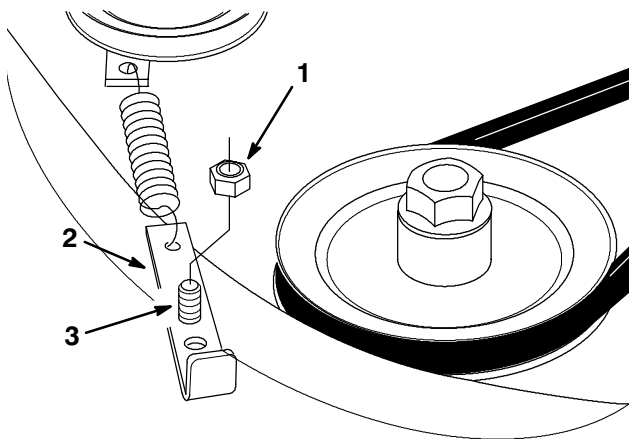

Figure 30
2. Lift the spring anchor up and off of the cap screw (Fig. 30).
3. Reinstall the appropriate hole in the spring anchor onto the cap screw to increase the idler pulley spring pressure on the deck idler pulley (Fig. 30).
4. Reinstall and tighten the nut onto the cap screw (Fig. 30).